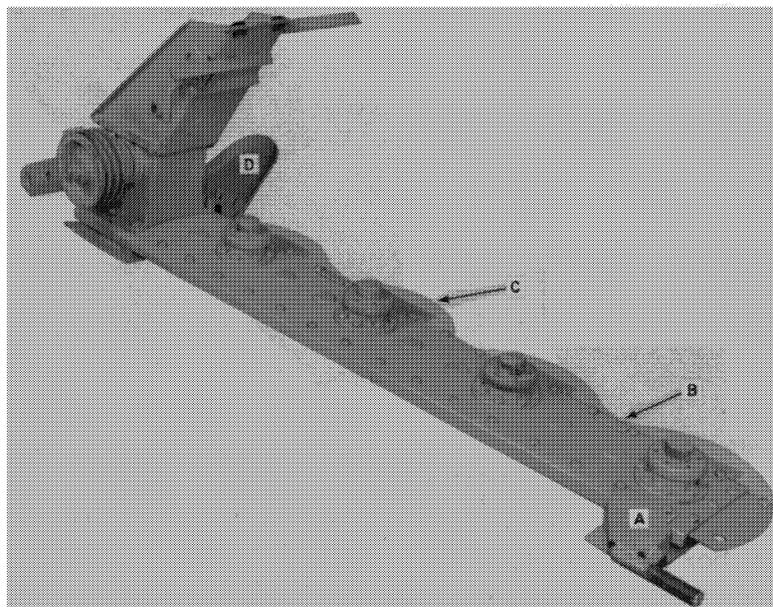

FIGURE 6
2. Remove the outer skid shoe A, Figure 6. Remove all the bolts holding the cutter bar halves together. Remove the inner shoes B and disc shoes C.